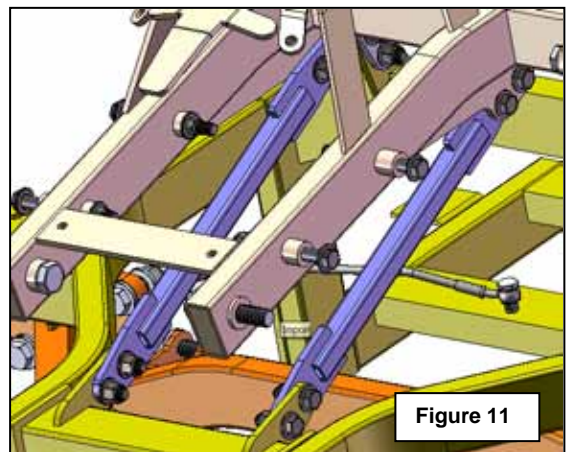

Figure 11
- a. Install left and right support struts as shown using supplied hardware. Struts fit inboard of body frame and shock mount. Torque to 45 lb.ft. Figures 11 and 11a